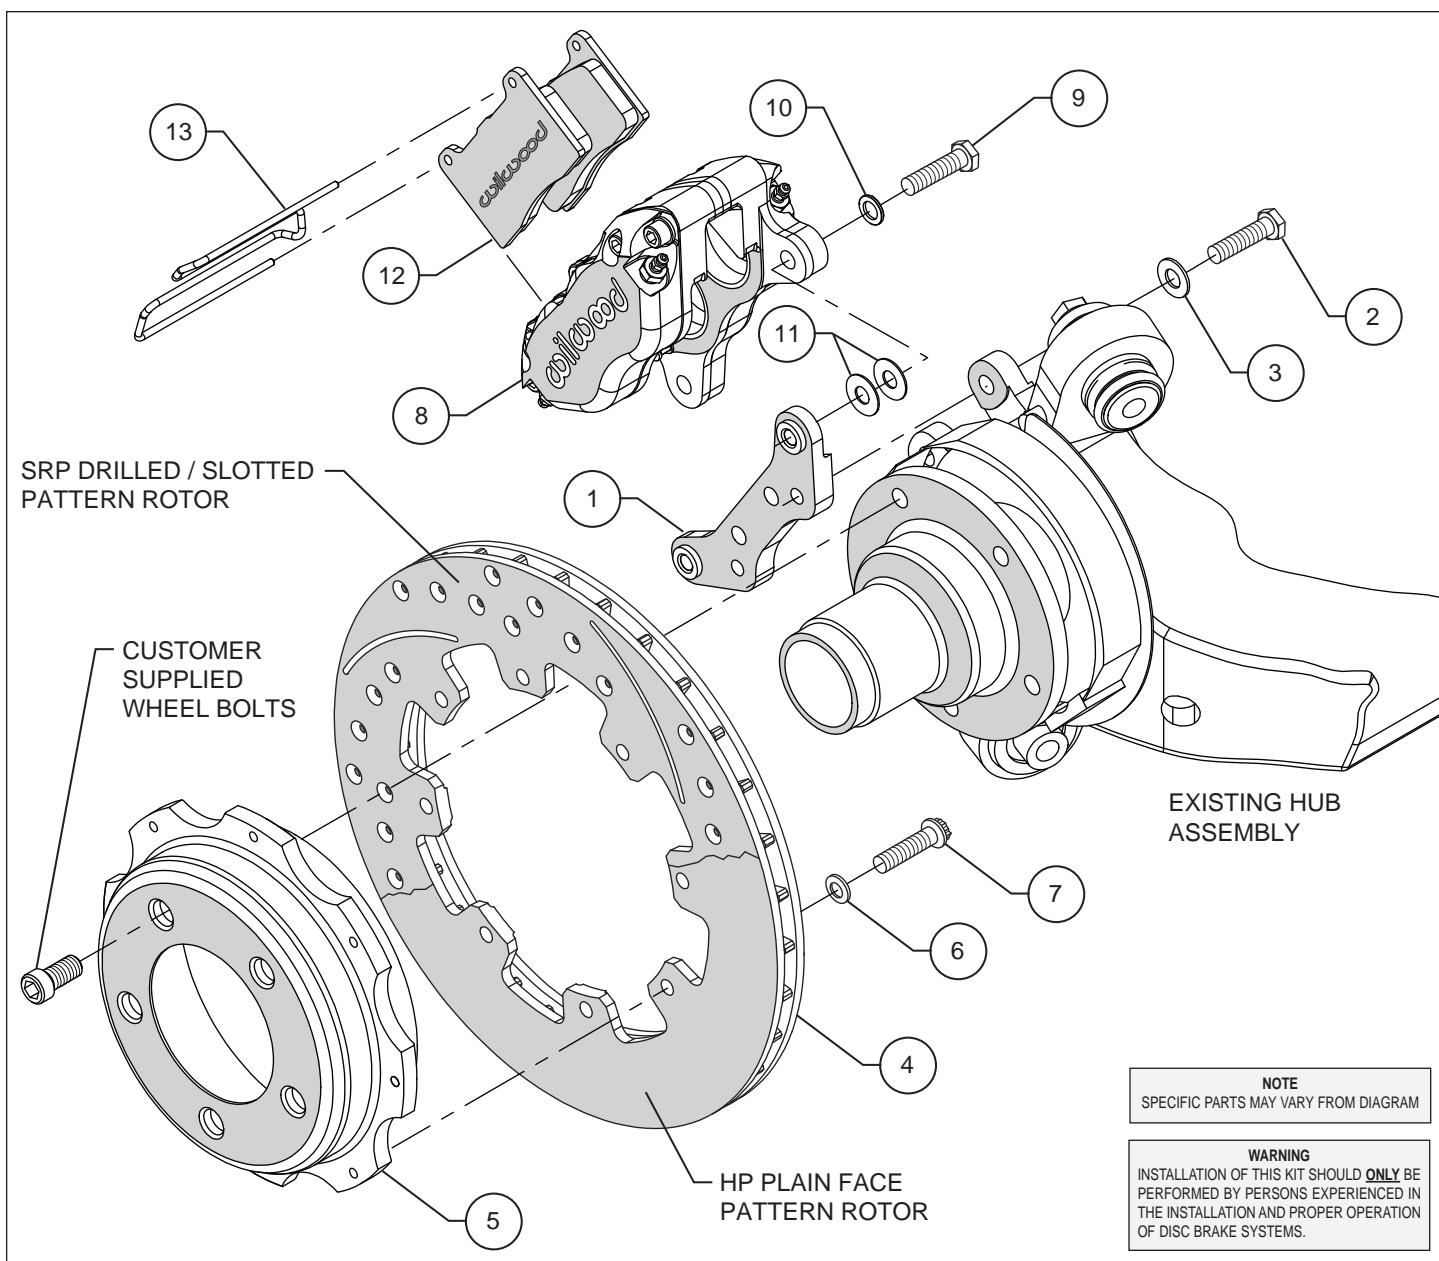
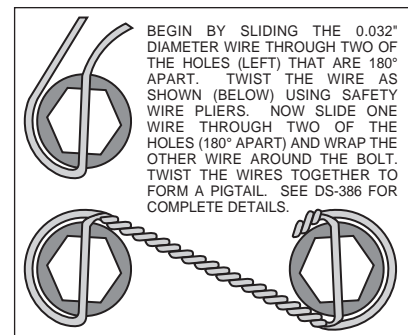
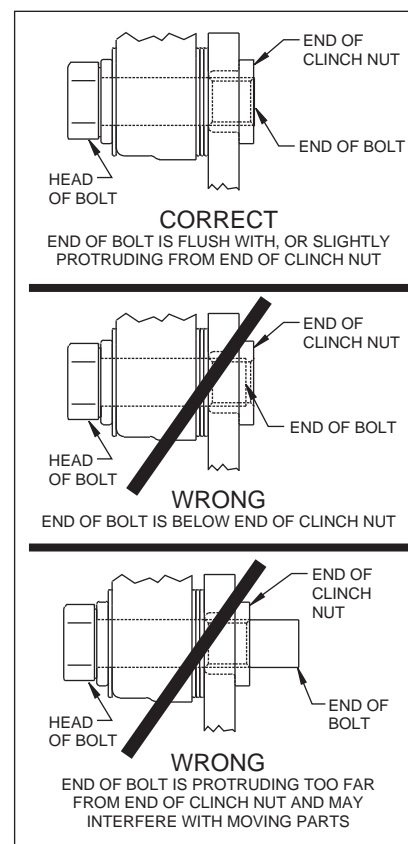

Figure 1. Typical Installation Configuration
Figure 3. Safety Wire Diagram
Figure 4.
**Assembly Instructions** (numbers in parenthesis refer to the parts list and Figure 1 on the preceding pages): **CAUTION:** All mounting bolts must fully engage insert nuts. Be sure to check that all bolts are either flush or protruding through flanged side of insert nut after shimming.
- Align caliper mounting bracket (1) with the corresponding holes to the face of the upright and attach using bolts (2) and washers (3), as shown in Figure 1. Temporarily tighten the mounting bolts. Ensure that the flanged heads of the clinch nuts in the bracket are facing outboard.
- Orient the rotor (4) and the hat (5) as shown in Figure 1. Attach rotor to hat using bolts (7) and washers (6). Using an alternating sequence, apply red *Loctite*® 271 to the threads and torque bolts to 140 in-lb. For an added measure of security, the bolts may be safety wired using standard 0.032 inch diameter stainless steel safety wire as shown in Figure 3. Please refer to Wilwood's data sheet DS-386 (available at [www.wilwood.com/Pdf/DataSheets/ds386.pdf](http://www.wilwood.com/Pdf/DataSheets/ds386.pdf)) for complete safety wire installation instructions.
- NOTE:** Please reference the caution statement at the beginning of the assembly instructions. Mount the caliper (8) onto the caliper mounting bracket (1) using bolts (9) and washers (10), as shown in Figure 1. Initially place two .035" thick shims (11) on each bolt between the caliper and the bracket, Figure 1. Temporarily tighten the mounting bolts and view the rotor (4) through the top opening of the caliper. The rotor should be centered in the caliper. If not, adjust by adding or subtracting shims (11) between the bracket and the caliper. Always use the same amount of shims on each of the two mounting bolts. **NOTE:** The end of each bolt must be flush with or slightly protruding from the head of the clinch nut, as shown in Figure 4. If necessary place spare shims between washer (10) and caliper mounting ear to achieve the proper clinch nut engagement. Once the caliper alignment and clinch nut engagement are correct, remove the bolts one at a time, apply red *Loctite*® 271 to bolt threads, and torque to 40 ft-lb.
- Install the disc brake pads (12) into the caliper, with the friction material facing the rotor (4), and secure in place using the pad clip retainer (13).